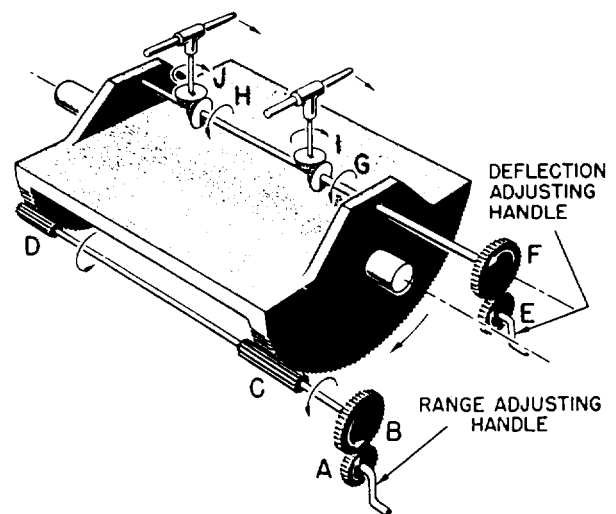

Figure 6-8.—Gears change direction of applied motion.
A study of figure 6-8 will show you how gears are used to change the direction of motion. This is a schematic diagram of the sight mounts on a Navy gun. If you crank the range-adjusting handle (A) in a clockwise direction, the gear (B) directly above it will rotate in a counterclockwise direction. This motion causes the two pinions (C and D) on the shaft to turn in the same direction as the gear (B) against the teeth cut in the bottom of the table. The table is tipped in the direction indicated by the arrow.